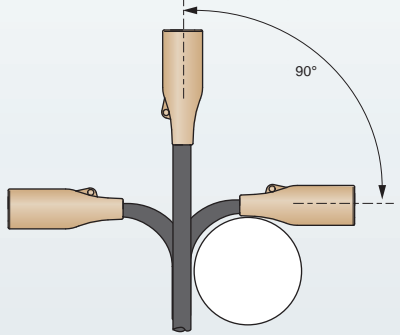

Fig. 18
4. Overmolding: The same wisdom applies to ensure proper adherence of molding compounds to cable jackets. Abrade as necessary, degrease with Isopropyl Alcohol and use material combinations known to deliver strong and durable bonds. Overmolding is the "gold standard" when it comes to leak mitigation in environmental cable assemblies. (See Fig. 18)